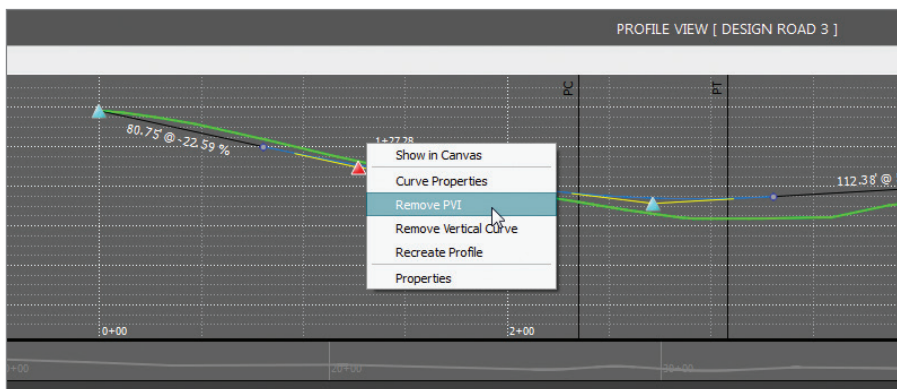

FIGURE 2.33 Removing a PVI in profile view
10. Right-click the second PVI and click Remove PVI, as shown in Figure 2.33.